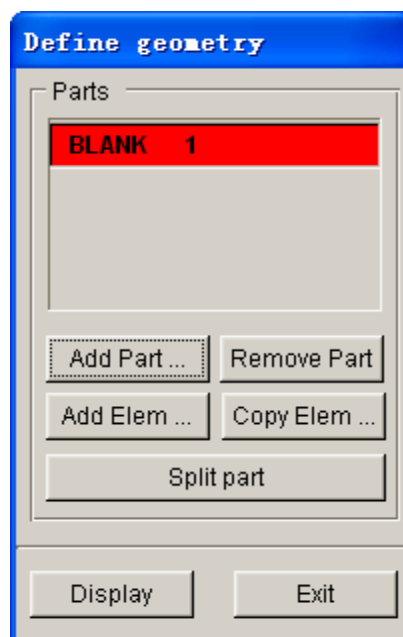

Figure 7.9 Blank geometry list
5. After selecting the part, click on OK button to return to the DEFINE GEOMETRY dialog box. The **BLANK** part is added to the list. See Figure 7.9.